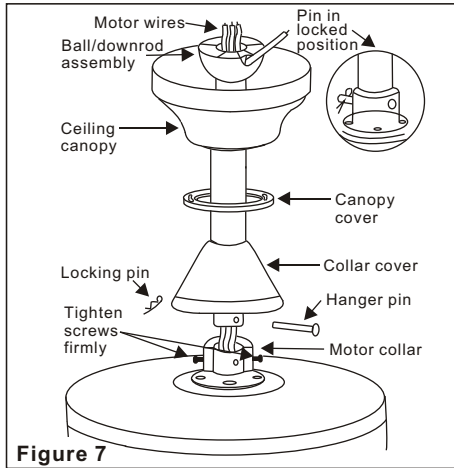

Figure 7
Step 6. Route wires exiting from the top of the fan motor through the collar cover, canopy cover, canopy and then through the ball / downrod. (Fig. 7)
Step 7. Align the holes at the bottom of the downrod with the holes in the collar on top of the motor housing (Fig.7). Carefully insert
the hanger pin through the holes in the collar and downrod. Be careful not to jam the pin against the wiring inside the downrod. Insert the locking pin through the hole near the end of the hanger pin until it snaps into its locked position, as noted in the circle inset of Fig. 7.
Step 8. Tighten two set screws on top of the fan motor firmly (Figure 7)